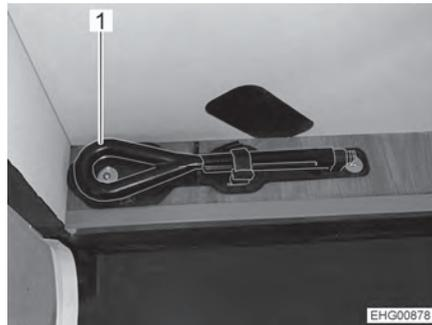

Fig. 1 Towing eye
- ▷ The instruction manual for the Ford base vehicle describes that the towing eye is located underneath the front passenger's seat. In the motorhome, however, the towing eye (Fig. 1,1) is housed in a bracket on the floor landing in the rear garage.